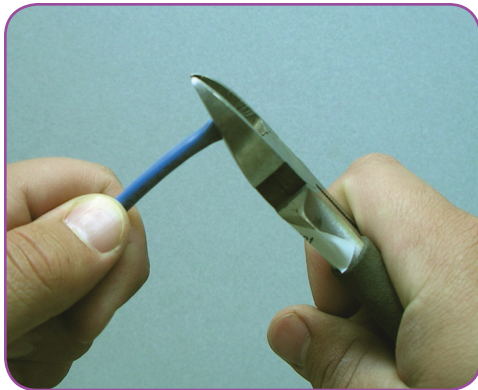

Figure D-1: Cutting the Cable Wiring
1. Using wire cutters, cut the end of the wire. Ensure the individual wires inside are even (see **Figure D-1**)